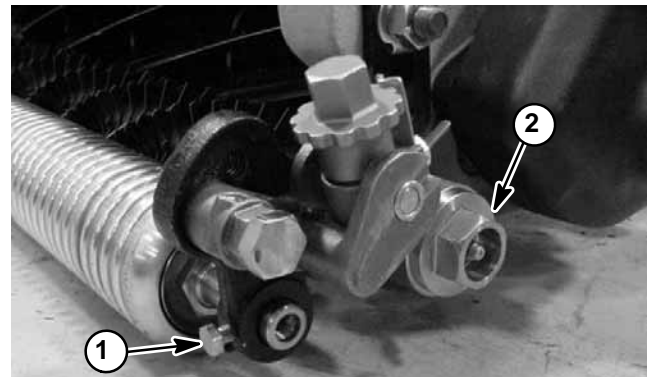

Figure 8
8. Use a 3/8" drive socket wrench to remove drive pulley (item 17) from the cutting reel shaft.
9. Remove two (2) shoulder nuts (item 13) that secure the groomer RH side plate to the cutting unit side plate. Remove the groomer RH side plate.
10. Remove the cap plug from LH side plate (Fig. 8).
15. Apply Loctite #242 (or equivalent) to threads of cap plug (item 21). Install cap plug into LH side plate and torque from **60 to 80 ft-lb (82 to 108 N-m)** (Fig. 8).